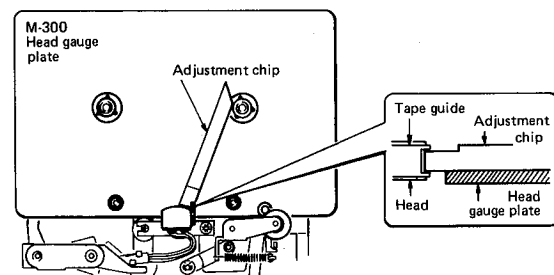

Fig. 9
3. Check to make sure that the adjustment chip does not contact the tape guide of the head. (See Fig. 9.)